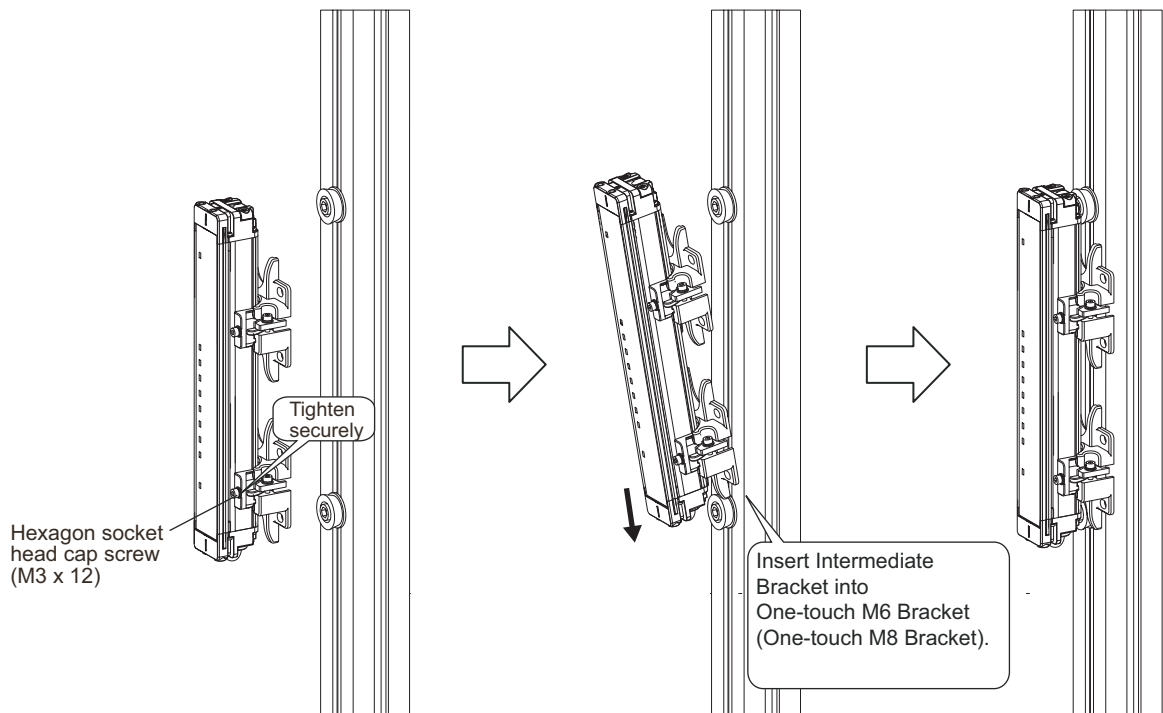

Figure 28
- Tighten the hexagon socket head cap screws (M3 x 12) of Intermediate Bracket (1) to secure the sensor. (Figure 28)
- Insert the Intermediate Bracket, which has been mounted at the bottom of the sensor, into the One-touch M6 Bracket (or One-touch M8 Bracket) mounted to the aluminum profile. (Figure 28)